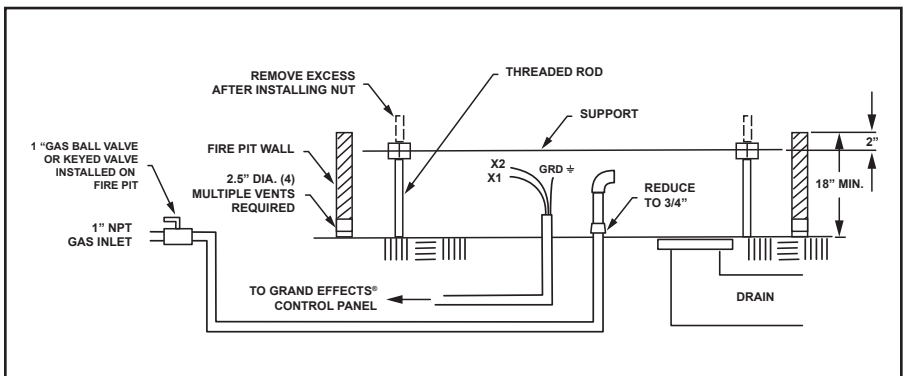
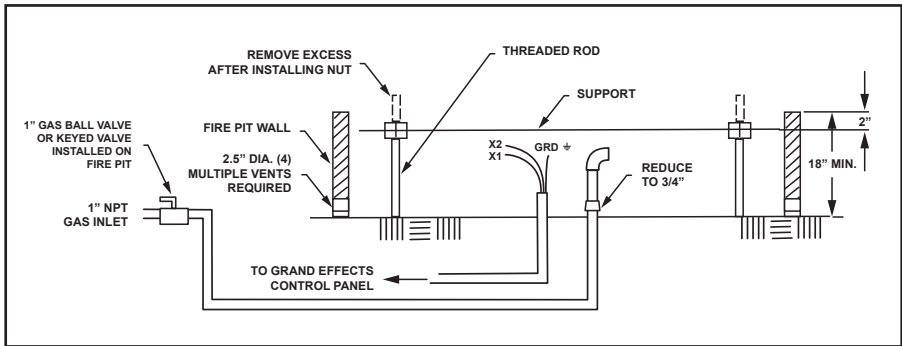

Figure 5. Natural Gas - Residential Installation
Figure 6. Propane - Residential Installation
3. The piping must be reduced to 3/4" NPT or larger at the burner, as shown in Figure 5, 6 and 7.
IMPORTANT: Do not come straight up with the gas hose. As shown in Figure 5, 6 and 7, a 90° gas pipe elbow must be installed on the gas line for proper installation of the gas hose. The product warranty is voided if it is not installed with an elbow.
7. The Support Plate can be installed in a few different methods. Smaller Support Plates can be supported using legs (threaded rod) supplied by Grand Effects. When using threaded rod, adjust the height of the support plate as shown in Figures 5, 6 and 7. Cut off the excessive length of bolts. When using threaded rod as legs, the bottom of the fire pit should be concrete to support the weight of the Support Plate, Burner Assembly and decorative media. When using larger Support Plates, stainless "L" brackets may be sufficient to hold Support Plate and burner assembly and media. If not, then structural galvanized angle iron cross members should be included. Cross member supports should be fixed and laid across fire pit in a rigid manner to hold Support Plate, Burner Assembly and decorative media. Venting the air gap at the bottom of the fire pit walls is required for cooling the burner assembly as shown in Figure 5 and Figure 6.
8. Venting is required to keep burner electronics from overheating. Venting is achieved with air holes located at the bottom of the fire pit walls as shown in Figures 5, 6, 7 and 8.
NOTE: Providing good drainage is critical. Fire Pits using propane should not have drains located at bottom of cavity. Drainage should be achieved with vent holes located at bottom of side walls as shown in Figures 6 and 8.
IMPORTANT: There is an 18" minimum depth requirement on residential fire pits and 24" minimum depth on commercial fire pits as shown in Figures 5, 6, 7 and 8.